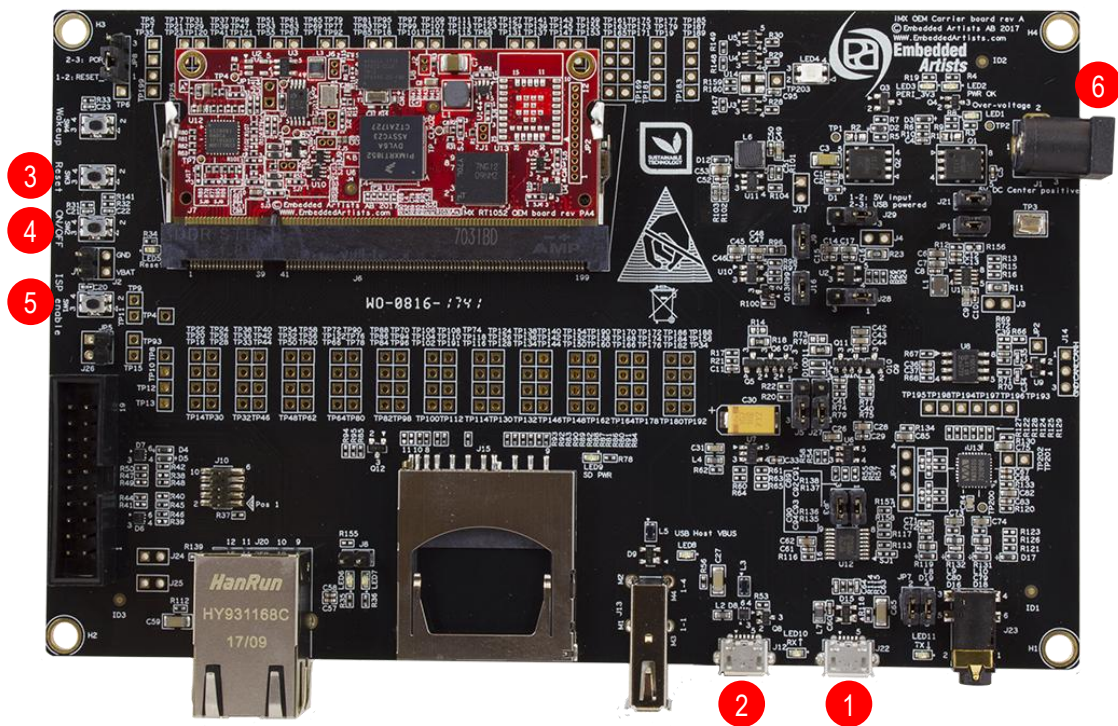

Figure 1 – iMX RT1052 Developer's Kit Top View
- One *iMX RT1052 COM* board mounted on one *iMX COM Carrier board*, see Figure 1 below.
Figure 1 below illustrates the top side of the *iMX OEM Carrier board*. Some key components, relevant to get started, have been marked in the picture.
Begin by connecting the micro-B USB connector to position 1) in Figure 1 above. Connect the other end of the USB cable to the PC. The pre-loaded demo application will immediately start, showing some graphics on the LCD (on the bottom side). The demo application is described in more detail in section 3.
The board is normally powered from a PC/laptop via the included USB cable (micro-B to A cable) when connected to position 1) in Figure 1 above. This setup will work in most cases. However note that not all PC/laptops can provide the needed current. A powered USB hub can be used in this case or an external power supply.